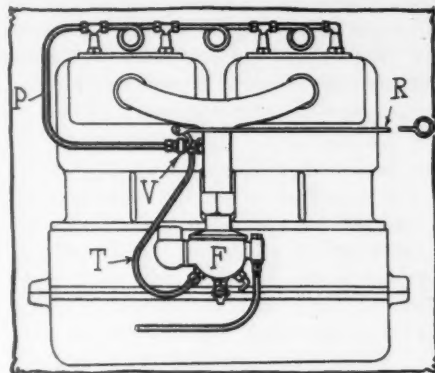

FIG. 1—WALSTROM PRIMING DEVICE
**MOTOR Priming Device**—No. 981,337, dated January 10; to Axel M. Walstrom, Minneapolis, Minn.—This patent relates to a means for facilitating the starting of hydrocarbon engines such as are now used in almost all gasoline motor cars. The devices comprise, as shown in Fig. 1, a compression relief device communicating between the inlet pipe of the motor and each of the cylinders and having a valve V near its attachment to the inlet pipe which may be operated by means of a rod R arranged to pass through the dash-board or the radiator as desired.